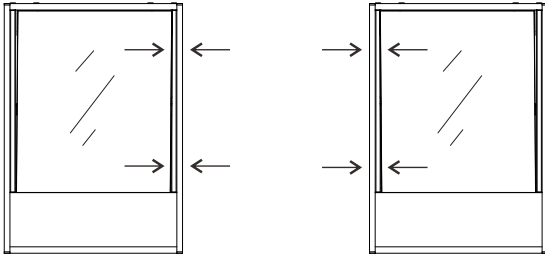

Fig.10
3.1 Fix the mirror cabinet, and check if the mirror door is flat; if not (as shown in Fig.10),adjust the distance of the door opening by adjusting the hinge screw (b) and keep the door level (Fig.11).